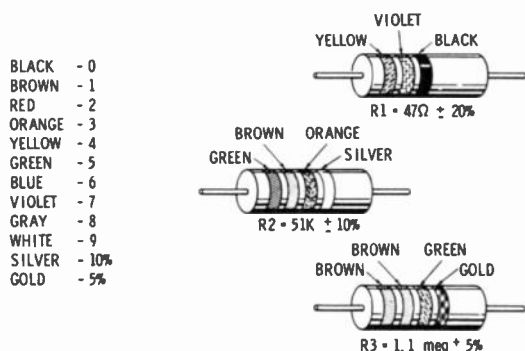

Fig. 1-20. EIA system for color coding resistors.
The color code is shown in Fig. 1-20. Starting from the end, the first band is the first number, the second band is the second number, and the third band is the multiplier (number of zeros). The fourth band is the tolerance. In Fig. 1-20, R1 has three bands. The first is yellow (4), the second is violet (7), and the third is black (0). This means that the resistor is  $47\Omega$ , and since there is no tolerance band, the tolerance is  $\pm 20\%$ .